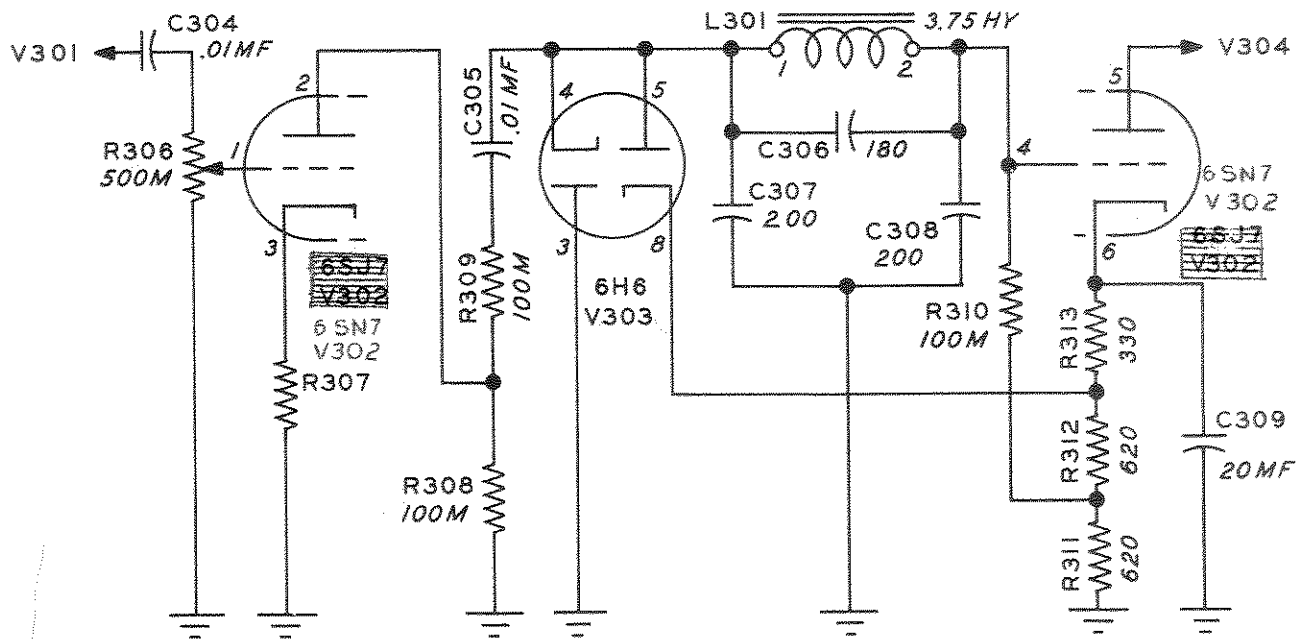

Figure 2-2 Speech Clipper Circuit
(2) SPEECH AMPLIFIER CIRCUITS. - Refer to figure 2-2. A 6SJ7 tube, pentode connected, is employed as a high gain voltage amplifier in the input stage of the speech amplifier. The 6SJ7 input tube is followed by a 6SN7 dual triode tube the first section of which precedes the 6H6 clipper tube. Refer to the schematic of the transmitter unit. The 6H6 clipper tube is shunted across the audio input to the second section of the 6SN7 audio amplifier tube. Notice that the cathode of one section of the 6H6 tube (pin number 4) is operating at a small fixed value of positive potential by virtue of being connected through reactor L301, resistor R310 to a tap on the cathode resistors R311, R312, and R313. This positive cathode potential biases the corresponding diode plate and no current flows through this section of the tube. However, when the magnitude of the negative audio peaks applied to the diode cathode become large enough to overcome the fixed positive potential, current flows through this section of the diode and the negative audio peak is attenuated by the short circuiting action of the diode. Likewise, the cathode of the second section of the clipper tube is returned to a tap on the 6SN7 amplifier cathode resistor which is more positive than the tap where its corresponding plate is attached. Thus the plate of the second section of the 6H6 is more negative than the cathode and no current flows. When a positive audio peak of sufficient magnitude reaches this diode plate the fixed negative bias is overcome and current flows through the second section of the diode and the positive audio peak is attenuated. Because of the above action the audio output of the second section of the audio amplifier tube cannot rise above the fixed level. Therefore, it is possible to set the degree of modulation with the Clipper Control R315 and be assured that the percentage of modulation will not rise above the chosen amount.